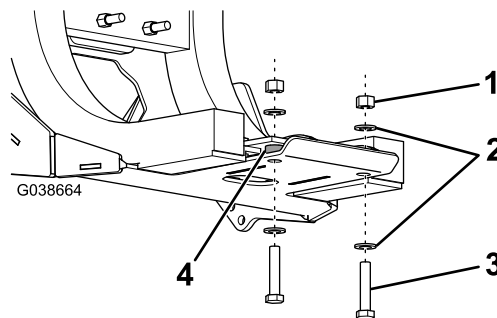

Figure 2
4. Secure the back of the plow skid plate to the vehicle using 2 bolts (M12), 4 washers, 2 spacers, and 2 nuts (M12), and leave the fasteners finger-tight (Figure 2).